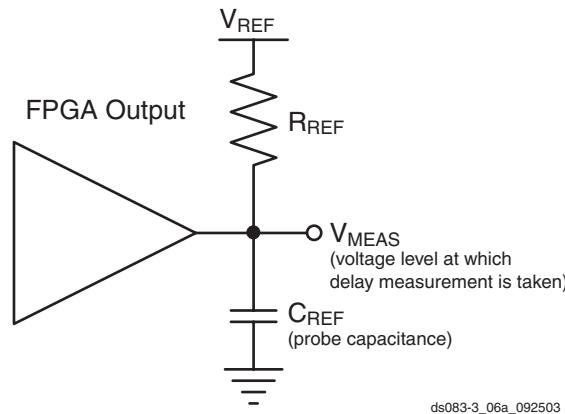

Figure 1: Generalized Test Setup
Output delays are measured using a Tektronix P6245 TDS500/600 probe (< 1 pF) across approximately 4" of FR4 microstrip trace. Standard termination was used for all testing. (See Virtex-II Platform FPGA User Guide for details.) The propagation delay of the 4" trace is characterized separately and subtracted from the final measurement, and is therefore not included in the generalized test setup shown in Figure 1.
2. Output timing is measured at 50% V_{CC} threshold with test setup shown in Figure 1. For other I/O standards, see Table 19.